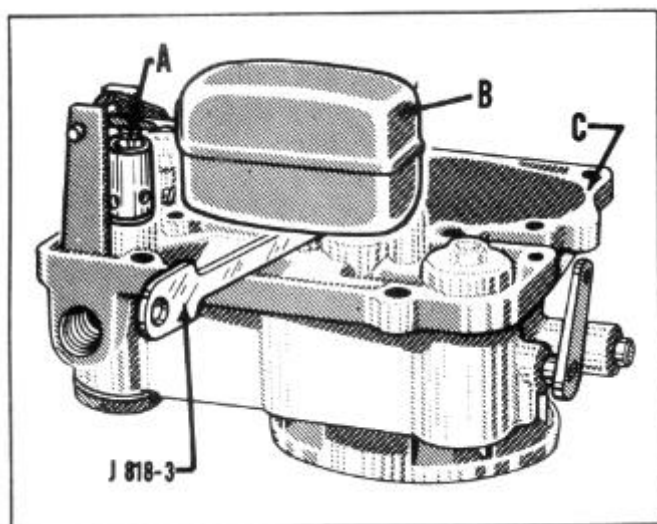

FIGURE 48
Holding the bowl cover inverted and gasket removed and with the float needle (A) Figure 48, seated, there should be 3/16" clearance between the top of float (B) and bowl cover (C). (Use gauge J-818-3 Carter No. T-109-28.) Measurement to be taken at lowest point of float, (approximately at center of float).